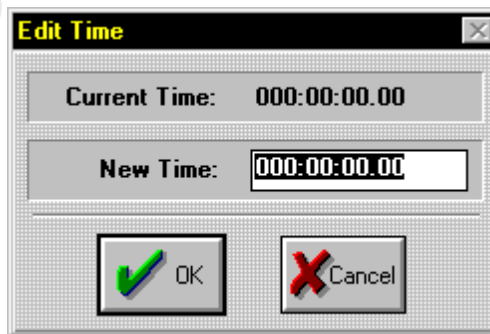

Figure 8.19. Edit Time Dialogue Box
4. Double click the **Trans Time** field. This will bring up the **Edit Time** dialogue box. Refer to Figure 8.19.